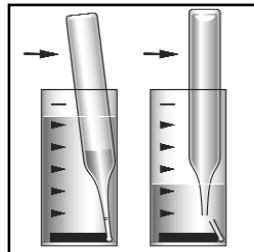

Figure 2
5. Immediately place the Vacu-vial ampoule used in Step #1, tip first, into the sample cup. Snap the tip. The ampoule will fill leaving a bubble for mixing (fig. 2).